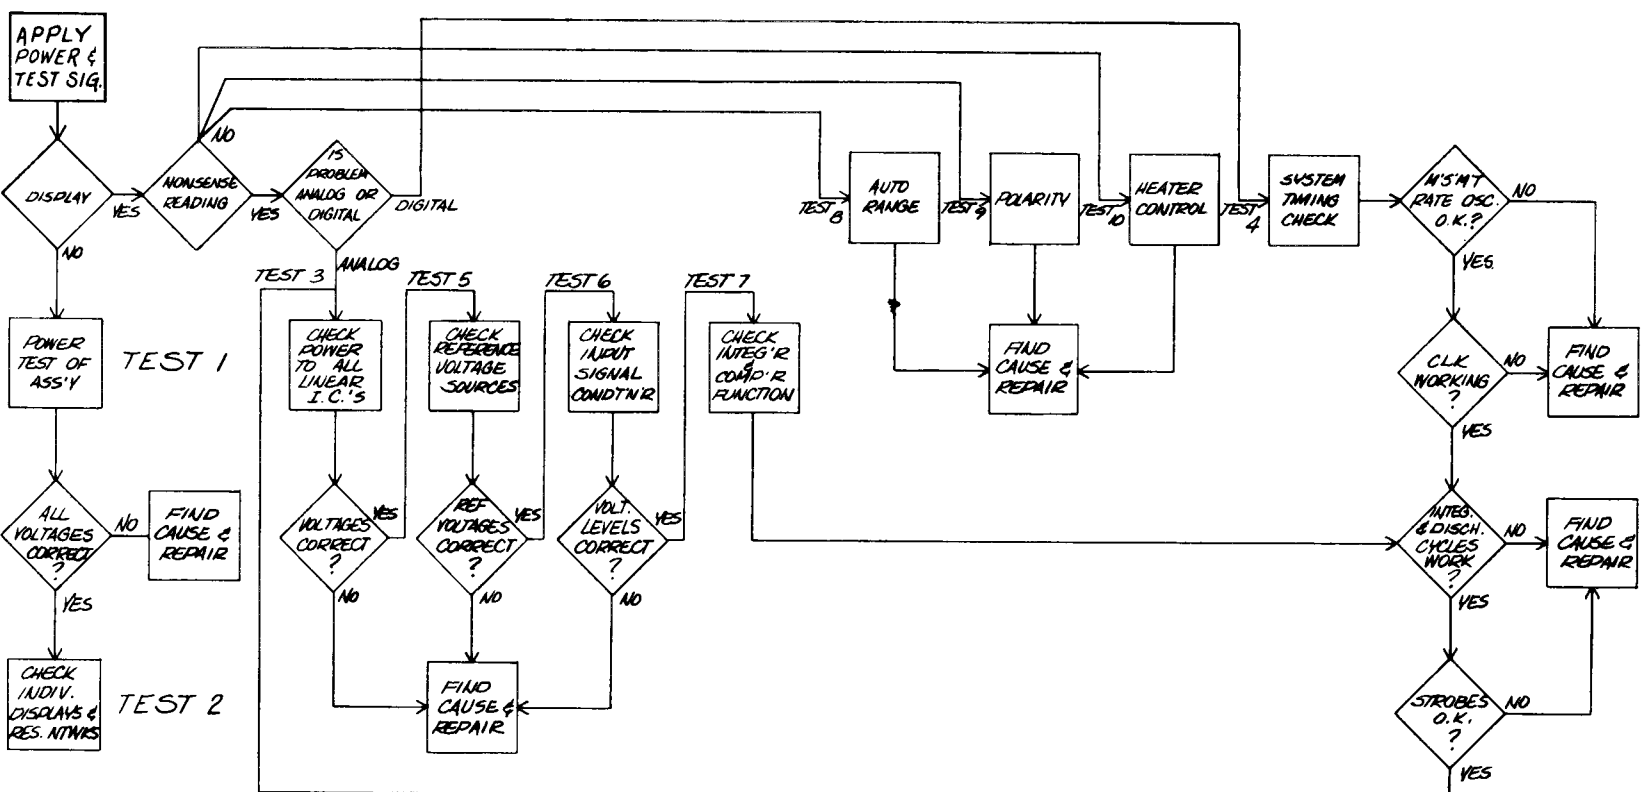

Figure 6 Flow Diagram
The flow diagram (figure 6) and test chart (table 2) are logical troubleshooting guides. Careful observation of the display, dc voltages, and waveforms will expedite isolation of a malfunction to a functional block. At that point, the unit schematic and the flow diagram are required to further localize and identify the cause of malfunction.
3.4 FLOW DIAGRAM AND TEST CHART (figure 6 and table 2).